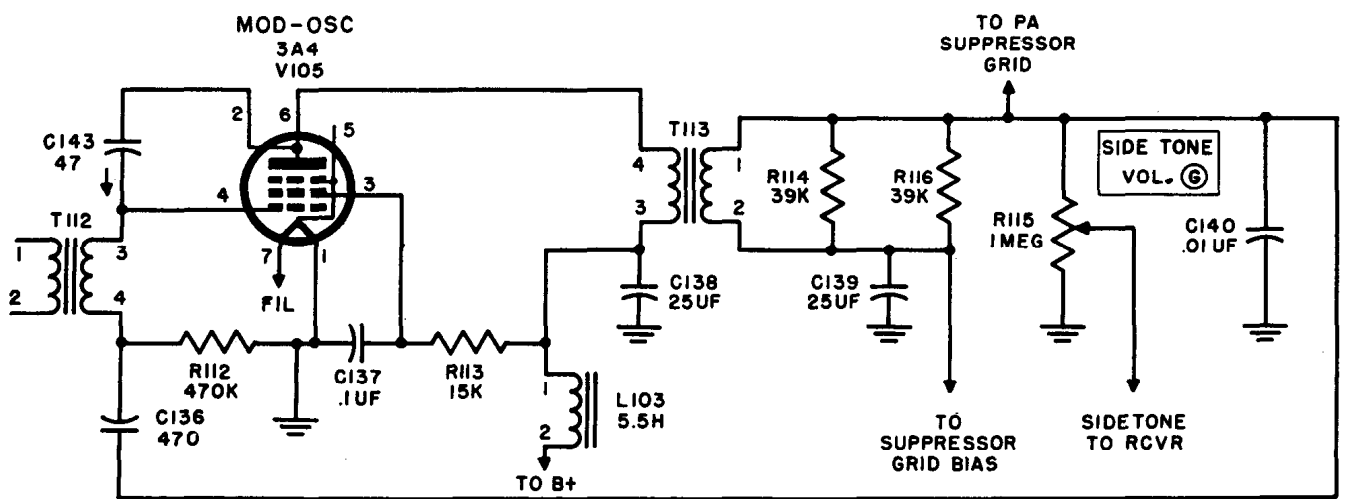

Figure 86. Modulator (af oscillator) stage, simplified schematic diagram.
d. *Mcw Operation* (fig. 86). During mcw operation, the bias which the modulator tube received from the power amplifier grid circuit is no longer present because the connection is broken by means of a switch (par. 114b). Therefore, the modulator tube becomes an audio oscillator because of the positive feedback through capacitors C136 and C143. The tube then develops its own bias across R112 in conjunction with C136 of just the right value to sustain oscillations. Resistor R116 is placed in the circuit across R114 to lower the output of
e. *Cw Operation* (fig. 86). Modulator tube V105 still operates as an af oscillator during cw operation to furnish sidetone for the receiver. However, during cw operation of the modulator tube, no signal is fed to the pa stage. The switching circuit for cw operation of V105 is described in paragraph 114c.